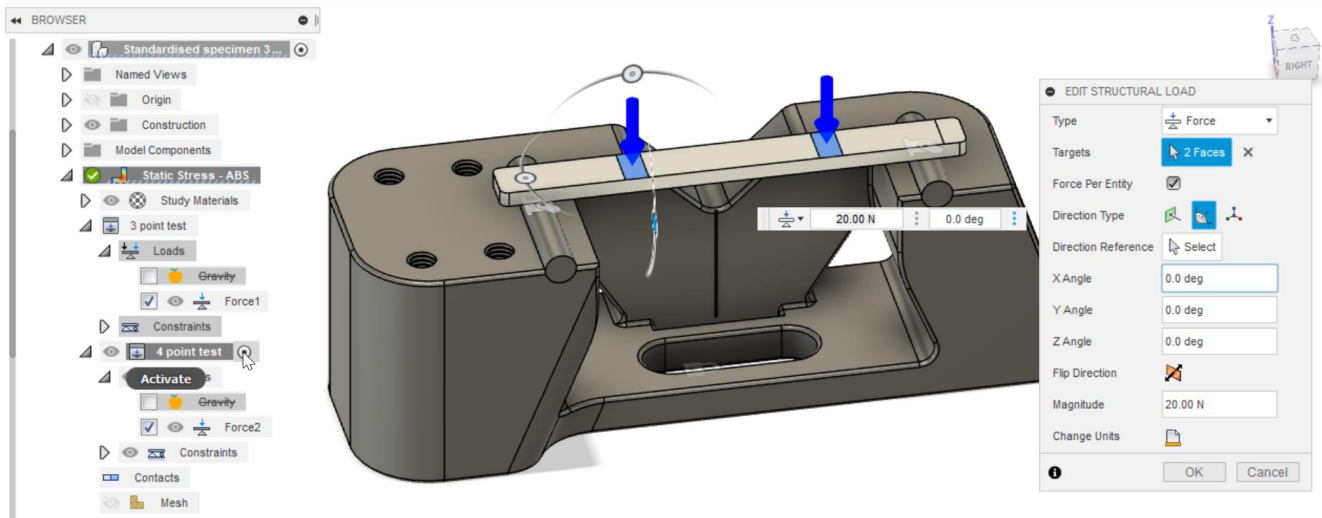

Figure 4: Application of a loads to the 4 point bending test
- Navigate to the 'Simulation Environment' and then activate the simulation you wish to run (see **Figure 4** for an example of the activated 4 point test within the 3 and 4 point test environment)